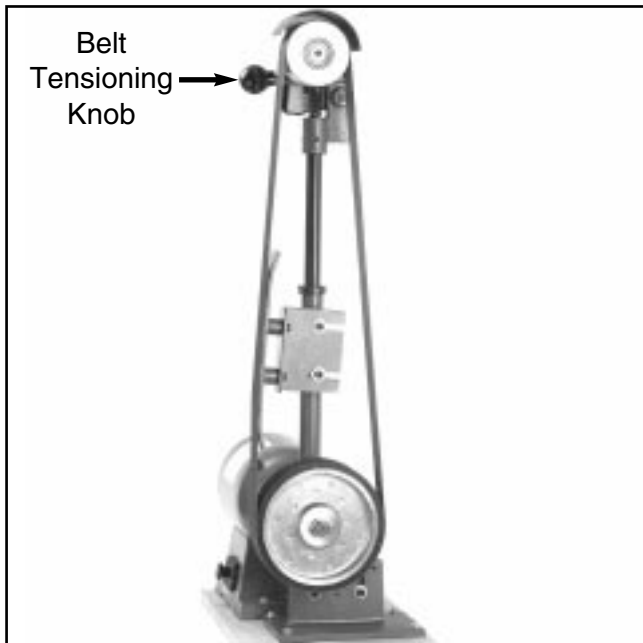

Figure 11. Attaching sanding belt.
3. Remove the belt and raise the upper assembly approximately $\frac{1}{4}$ ". Tighten the two (2) knobs.
4. Depress the belt tensioning knob. **See Figure 11.**